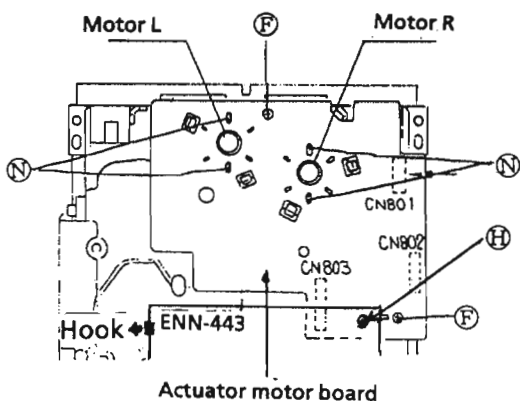

Fig. 2-13
② .. SBSF2608Z      ① ... SBSF3008Z
1. Unsolder 4 soldered point (N) for both motors. (See Fig. 2-13.)
2. Remove a screw (H) securing the CD servo board. (See Fig. 2-13.)
4. Remove 2 screws (F) securing the actuator motor board. (See Fig. 2-13.)